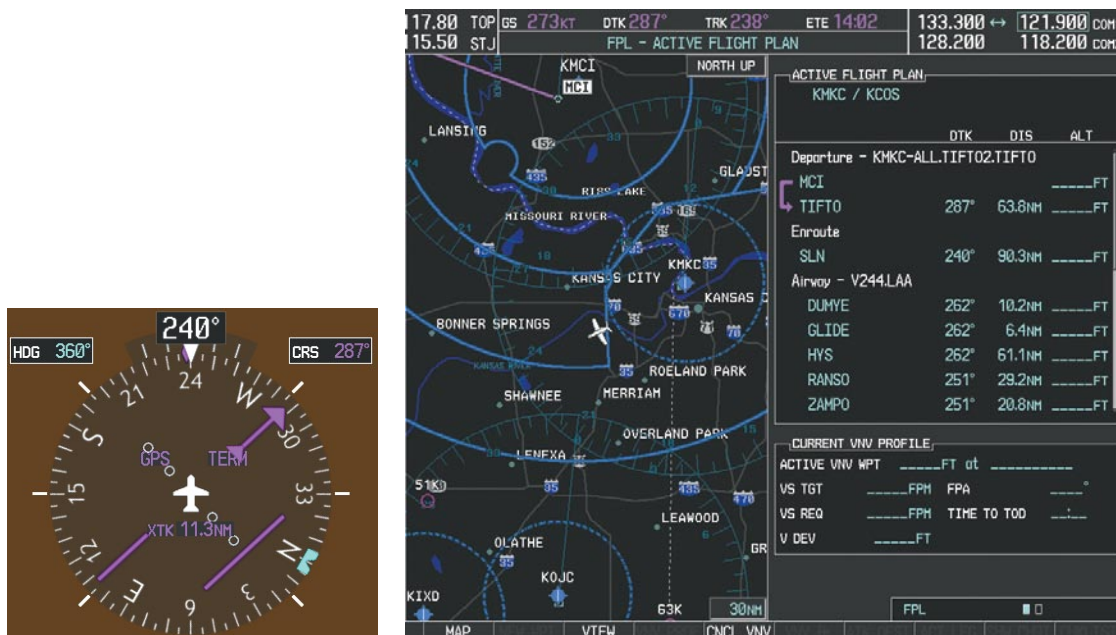

Figure 5-105 Assigned Heading of 240°
- 1) Prior to departure, the TIFTO2 departure, the airways, and the DBRY1 arrival at KCOS are loaded. See the Procedures section for loading departures and arrivals. Note the magenta arrow in Figure 5-105 indicating the active departure leg.
- 2) Figure 5-105 shows the aircraft on the assigned heading of 240°. 'TERM' (Terminal) is the current CDI flight phase displayed on the HSI indicating 1.0 nm CDI scaling.